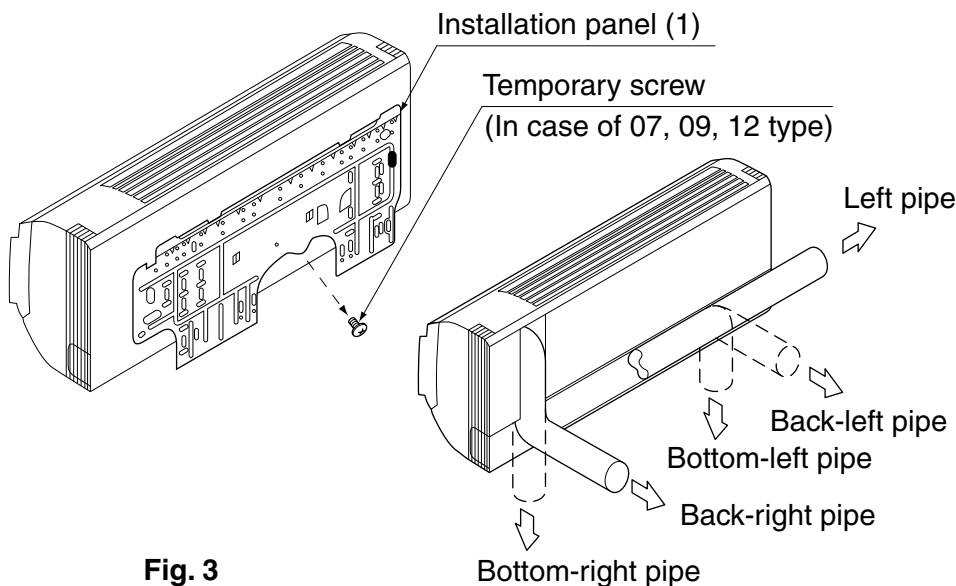

Fig. 3
(1) Open the piping through-hole.
- The refrigerant pipe and drain pipe can be passed out in one of 5 directions: left, bottom-left, back-left, bottom-right, and back-right. **(Refer to Fig. 3)**
- Using the paper pattern for installation (3), choose where to pass the piping out and open a through-hole ($\phi 3-1/8$ ") in the wall.
(Refer to Fig. 3)